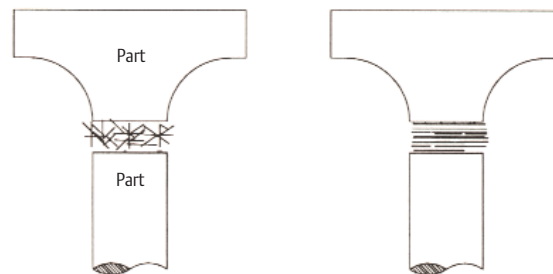

Figure 4. Orientation with and without Amplitude Profiling.
As thermoplastic materials such as polycarbonate, ABS, and polystyrene are heated, they gradually soften, or more precisely, their viscosity decreases. The higher the temperature, the easier the melt flows. Therefore, controlling the amplitude enables the user to control the melt flow (B). When the melt flow moves quickly across the weld surfaces (high temperature due to high amplitudes), the molecules of the plastic tend to align themselves with the flow. If the velocity of the melt is moderate, the molecules tend to align themselves in a more random orientation and become entangled (see Figure 4). If the molecules are entangled, the weld is stronger. In order to break the weld, a fracture must form through or around the molecular chains.